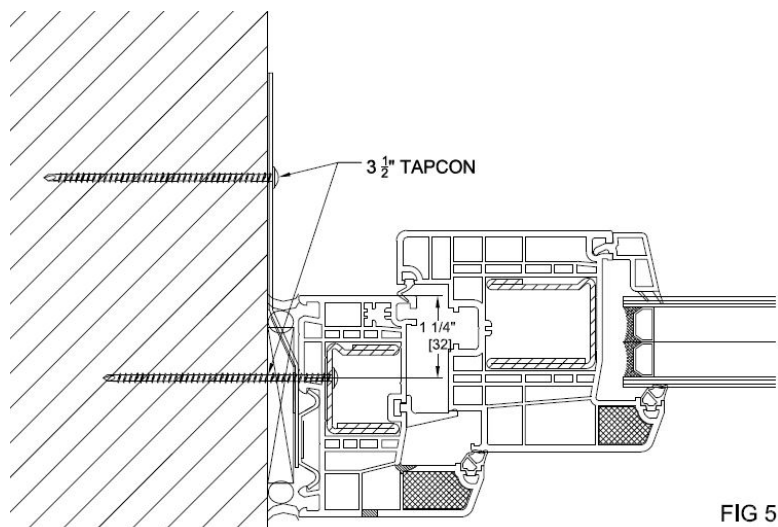

FIG 5
2. Position Support Blocks at each location shown on Support Block Layout diagram (Fig 5). **These are critical areas for support.**
3. Starting with **an interior upper corner**, bend clips to the rough opening frame and fasten to rough opening (**FIG.5**).
- c) Using a #10 x 3-1/2" Tapcon (concrete substrate) or Washer Head Wood screw (wood substrate), fasten through the jamb, support block, and into the rough opening framing (**FIG 5**). Repeat at the top strike side support block.